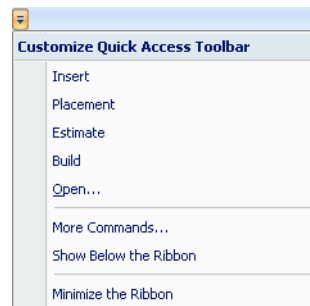

Figure 5-64: *Customize Quick Access Toolbar* menu
- From the *Customize Quick Access Toolbar* menu (see figure 5-64 on page 47), select **More Commands**.